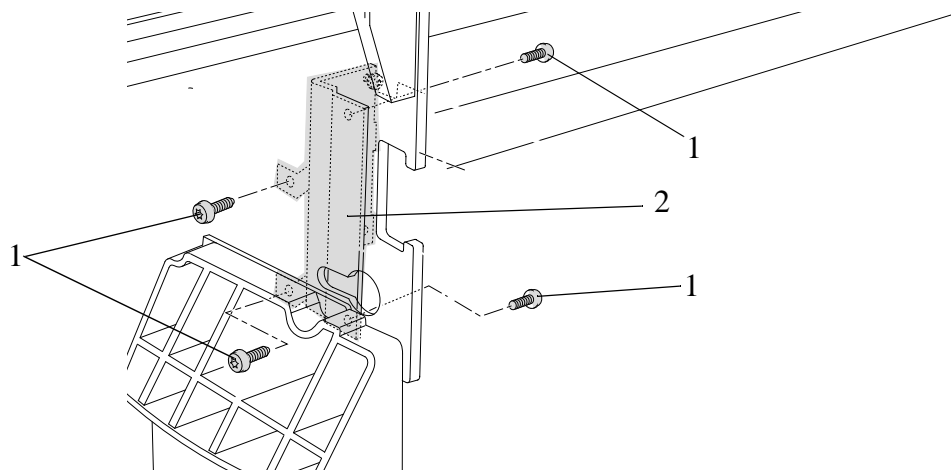

Figure 80: Left Electronic Module Mount
4. Remove the four T-15 screws (item 1) securing the left hand electronic module mount (item 2) to the left hand side chassis (refer to Figure 80).